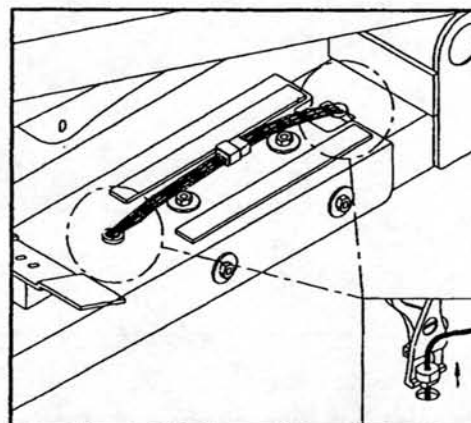

Fig.4-3
4. Firstly unplug the connector of the 6 PIN CABLE and then take the CABLE CLIP apart from the FRAME. Lastly, draw the replaced cable out as your desired (see fig 4-3).